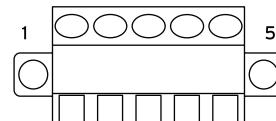

**Figure 6 Connect 12 V Wires**
- Step 11. Route the wires down the other side of the control module and attach the red wire to B15 and the black wire to B17. See *Figure 6*.